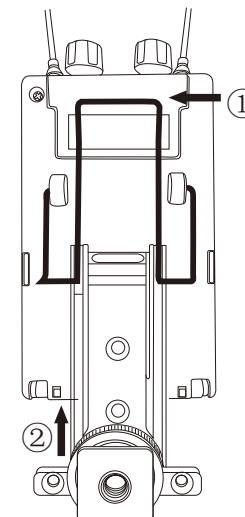
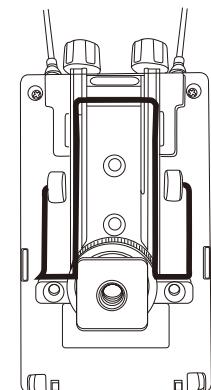

Figure 2
Figure 3
2. After the metal belt clip is removed from the AWR6601U wireless receiver, reverse the orientation of the metal clip such that the tip of the U-shaped portion (refer to numeral 1 in Figure 2) is facing the location of the antennas.
4. After the metal belt clip is securely installed on the AWR6601U wireless receiver, raise the tip of the U-shaped portion (numeral 1 in Figure 2). While the tip of the U-shaped portion is raised up, align the grooves on the top surface of the camera mounting rack to the parallel legs of the U-shaped portion and then slide the camera mounting rack along the direction of the grooves (as indicated by numeral 2 in figure 2) to be locked into a secure position as shown in Figure 3.